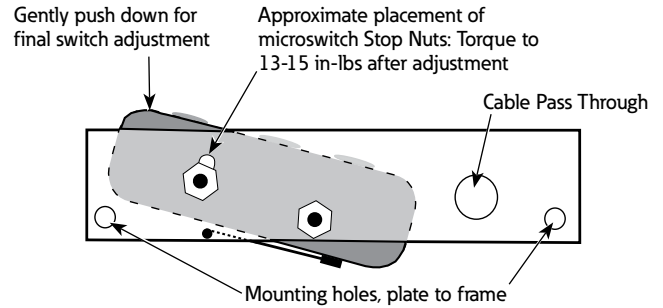

Figure 17. Side view, switch SW2 assembled to mounting plate.
- Reinstall pin, spacers, and two, small lower springs (Figure 17). (Vacuum unit without spacers shown. Oilinterrupting units have two spacers.)